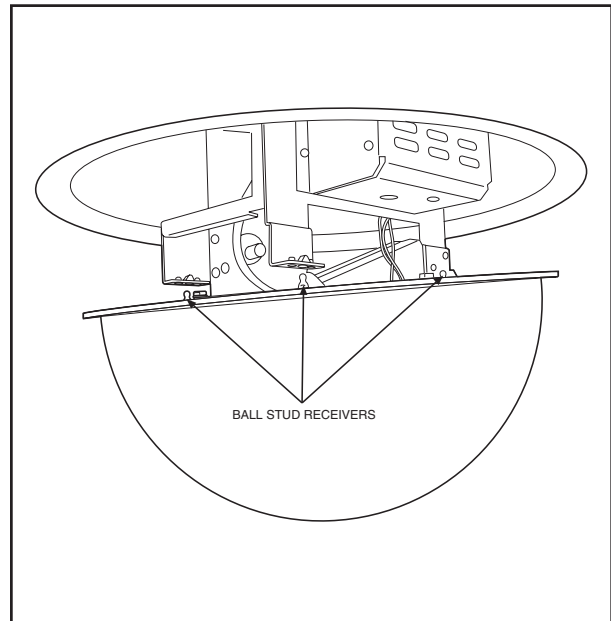

Figure 9. Attaching Dome to Drive Unit
6. Ensure there is sufficient initial clearance between the camera/lens and dome as you carefully attach dome to the drive unit as shown in Figure 9. Align the four ball studs on the dome to the four ball stud receivers on the dome drive and push the dome until a snapping sound occurs.
4. Ensure there is sufficient initial clearance between the camera/lens and dome as you carefully attach dome to drive unit as shown in Figure 9. Align the four ball stud receivers on the dome drive and push dome until snapping sound occurs. You are now ready to tilt the camera/lens combination up and down to check for clearance between the lens and the dome. If proper clearance is not achieved, the dome will be dislodged from the dome drive. Also pay attention to camera and wiring clearance up inside the drive.